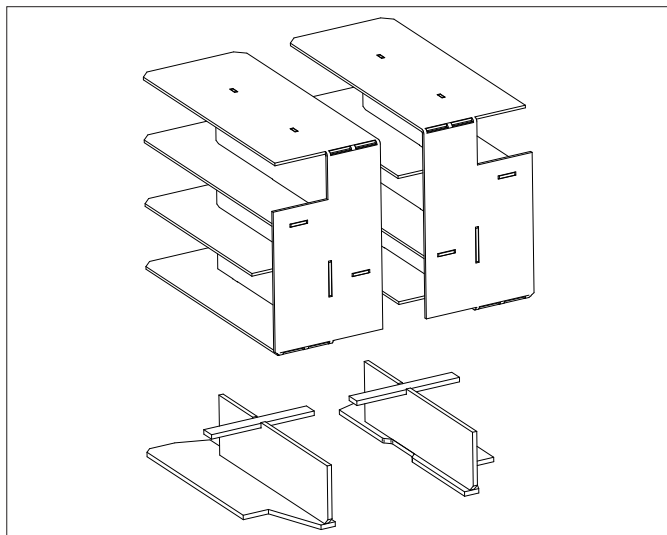
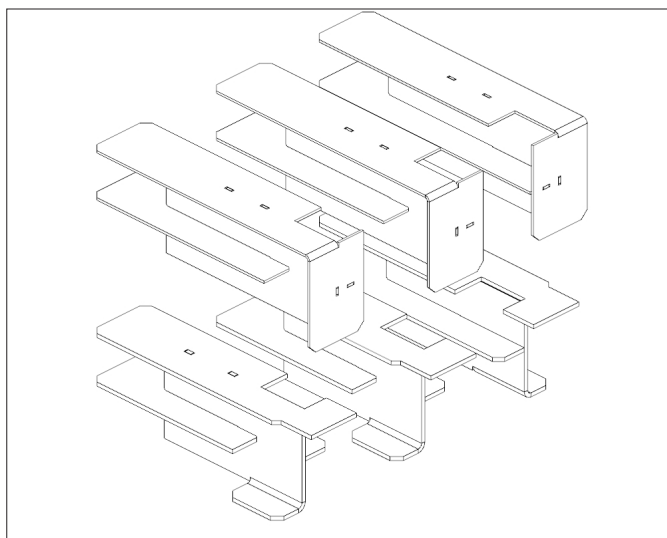

Figure 11-1: Baffles (21 & 26 model)
Figure 11-2: Baffles (36 model)
2. Remove the baffles as shown in Figure 11-1 and Figure 11-2.
6. Replace the baffles, ensuring they are correctly fitted. Refer to Figures 11-1 and 11-2, as appropriate.